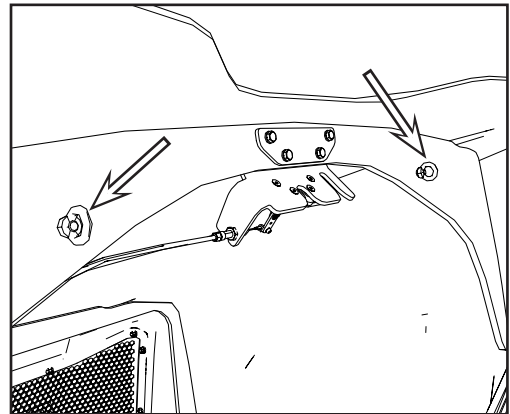

Figure 94
- Attach lifting device in the two lifting eyes, (see Figure 94) and use a crane to support the weight of the bonnet.